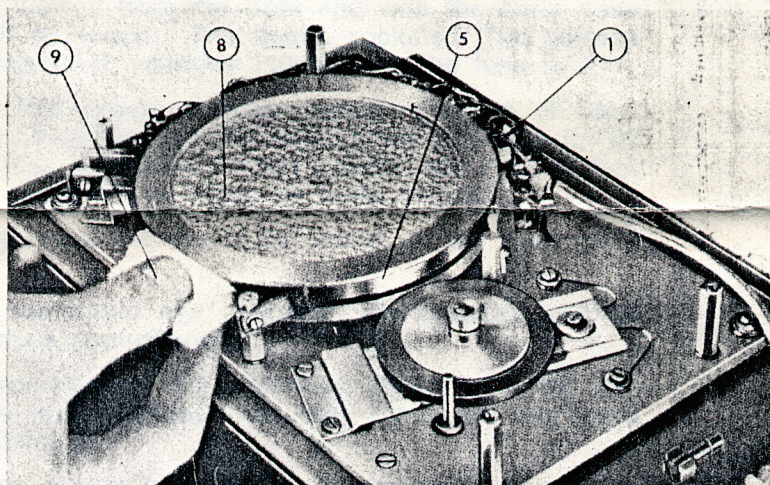

Fig. 2
Fig. 2 illustrates the best position in which to carry out this operation. It is necessary whenever a black strip is formed on the magnetic band and reduces the performance of the equipment. Use a piece of cloth, the special BINSON oil and ordinary petrol.
1. With the disc (8) rotating, insert a strip of paper as above (11) between the magnetic band (5) and one of the five heads (10) moving the paper vertically and horizontally several times. Remove the paper and tear off the dirty piece used: repeat the operation until the paper comes out clean.
2. Carry out the same operation for each head and for the two cleaning brushes already seen in Fig. 2. Make sure that the strip of paper passes easily between the erasing magnet (0) and the magnetic band (5).